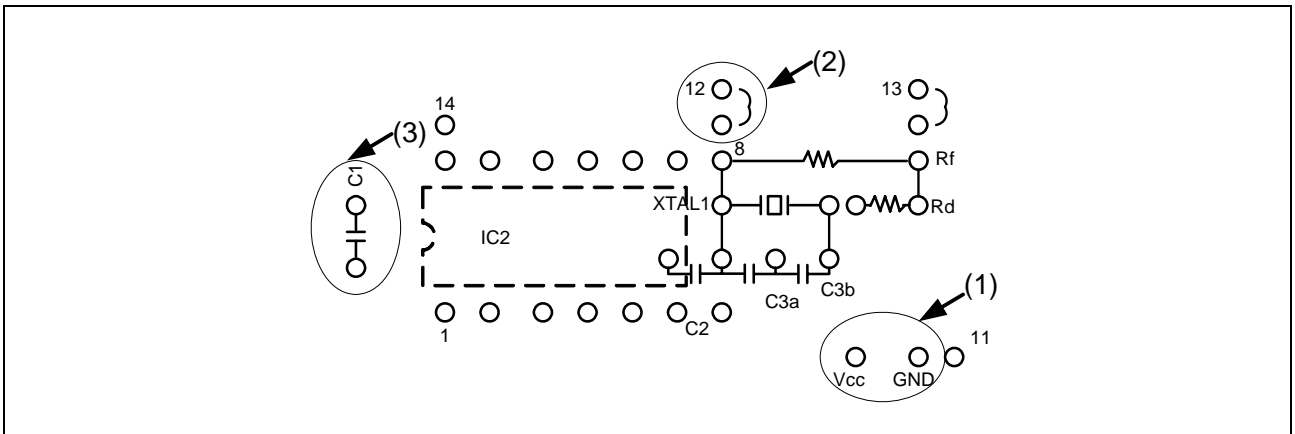

Figure 1 Connections when using the IC1
When using the IC1, the following processing is necessary (see (1) to (3) in Figure 1).
- (1) Supply VCC and GND.
- (2) Connect the OUT pin to the XIN pin.
- (3) Install a bypass capacitor at the C1.